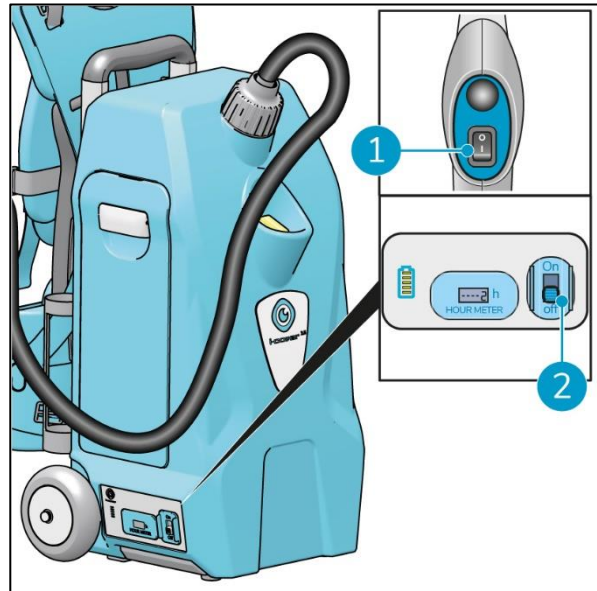

Figure 15
1. Press the ON/OFF switch on the spray gun (Figure 15, pos 1) to stop spraying.
2. Press the ON/OFF switch (Figure 15, pos 2) to turn off the i-cover® 2.5.